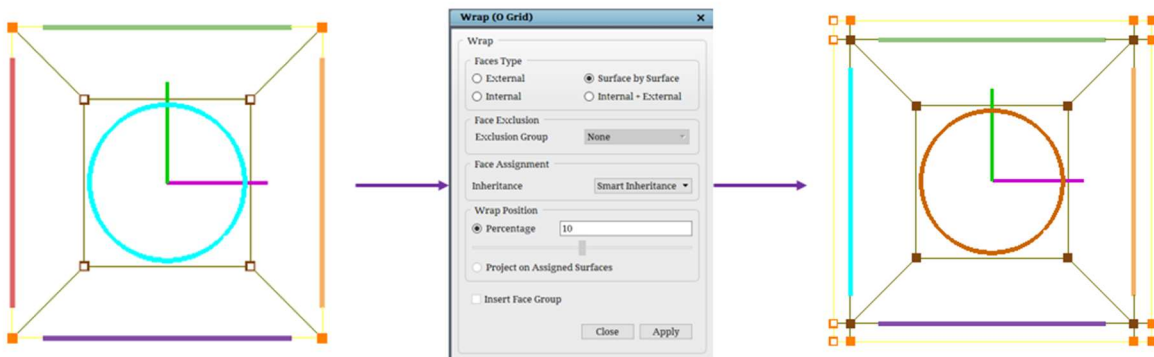

Figure 4.130: Surface by Surface Wrap
4. **Surface by Surface:** In this wrap type, the corners sheets assigned to all external surfaces are picked and wrapped at one shot, generating an H-type topology, as shown in Figure 4.130